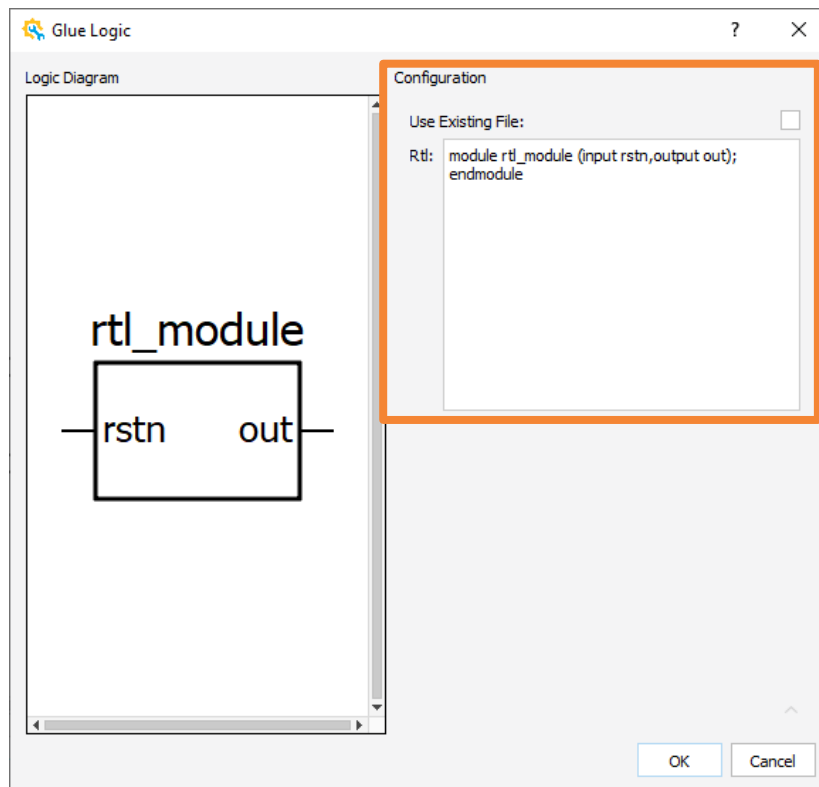

Figure 2.30. Glue Logic Wizard for Rtl Module
- a. From the IP Catalog, select the **rtl** module. Double-click the rtl module or drag and drop the rtl module to the Schematic view. A Glue Logic wizard (Figure 2.30) pops up.